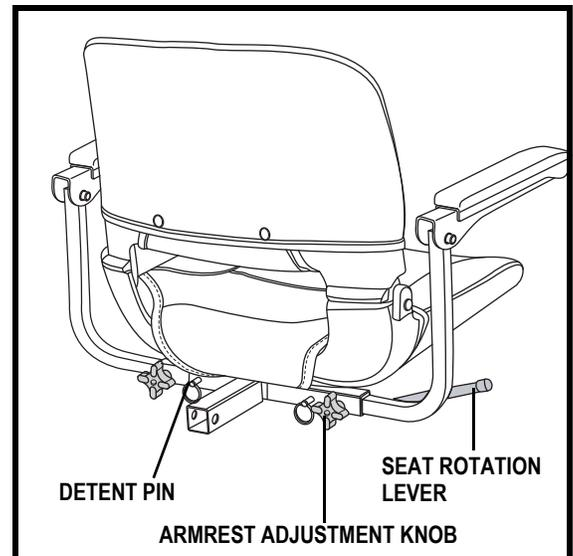

Figure 16. Seat Adjustments
1. Loosen the armrest adjustment knobs. See figure 16.